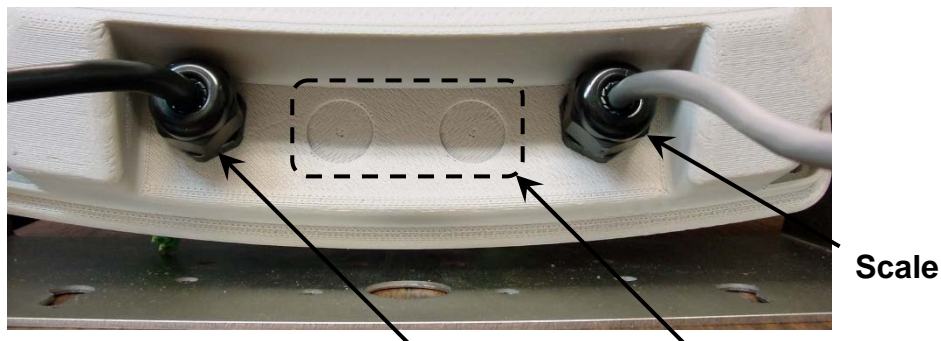

Figure No. 2
2. Referring to Figure No. 2, choose a gland connector for the load cell cable and loosen it.
1. Loosen the 4 Captive screws securing the rear housing to the front housing assembly and then loosen a gland connector for the serial cable. Refer to Figure No. 2 for an illustration of the connector layout.